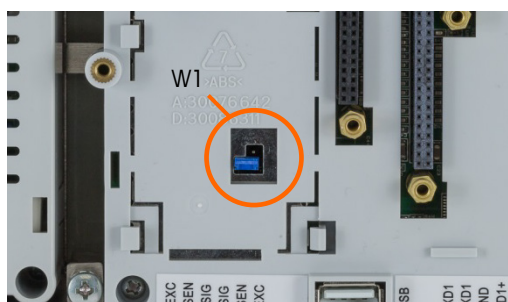
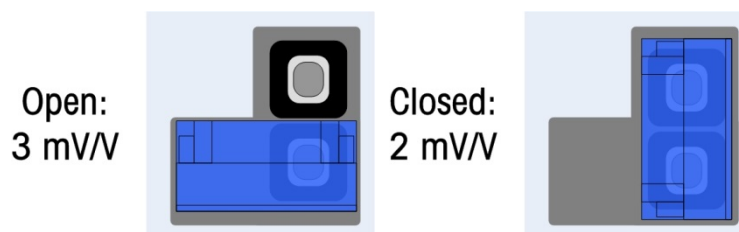

Figure A-115: W1 Millivolt Jumper Location, Main PCB
Figure A-116: W1 Millivolt Jumper Positions
The IDNet, SICSPRO and POWERCELL versions of the IND570 main board have no jumpers. There is one jumper on the IND570 analog scale main board (W1). This jumper selects either 2 mV/V or 3 mV/V operation of the analog circuitry. 3 mV/V is the factory default position. Refer to Figure A-115 for the jumper location and Figure A-116 for its settings.
- When removing the W1 jumper for 3mV/V operation, reposition it on just one of the pins, as shown in Figure A-115 and at left in Figure A-116. If this jumper is not correctly positioned, the plastic cover over the Main board will not fit properly. If this occurs, do not force the plastic cover down. Remove the cover and position the jumper as shown.